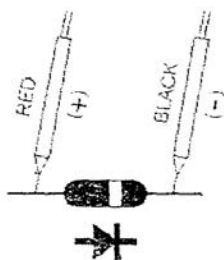

Fig. 2
- 4) a. When connected with polarity as shown in Fig. 2, a forward current flow is established and the approx. Diode Forward Voltage (VF) value in volt will appears on the display reading. If the diode under test is defective, " .000 " or near " .000 " value (short circuit) or " .OL " (open circuit) will be displayed.